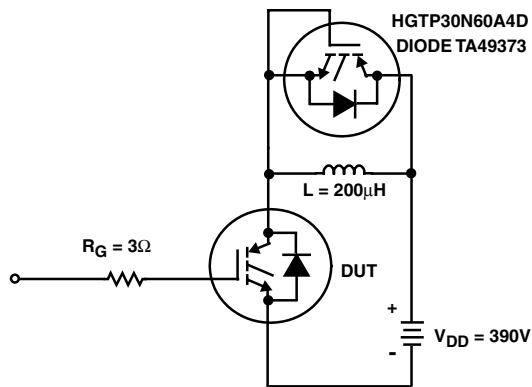

FIGURE 24. INDUCTIVE SWITCHING TEST CIRCUIT
| Current Turn-On Delay Time | $t_{d(ON)I}$ | IGBT and Diode at $T_J = 25^\circ\text{C}$, $I_{CE} = 30\text{A}$, $V_{CE} = 390\text{V}$, $V_{GE} = 15\text{V}$, $R_G = 3\Omega$, $L = 200\mu\text{H}$, Test Circuit (Figure 24) | - | 25 | - | ns |
| Turn-On Energy (Note 2) | E_{ON1} | IGBT and Diode at $T_J = 125^\circ\text{C}$, $I_{CE} = 30\text{A}$, $V_{CE} = 390\text{V}$, $V_{GE} = 15\text{V}$, $R_G = 3\Omega$, $L = 200\mu\text{H}$, Test Circuit (Figure 24) | - | 280 | - | μJ |
- Values for two Turn-On loss conditions are shown for the convenience of the circuit designer. E_{ON1} is the turn-on loss of the IGBT only. E_{ON2} is the turn-on loss when a typical diode is used in the test circuit and the diode is at the same T_J as the IGBT. The diode type is specified in Figure 24.